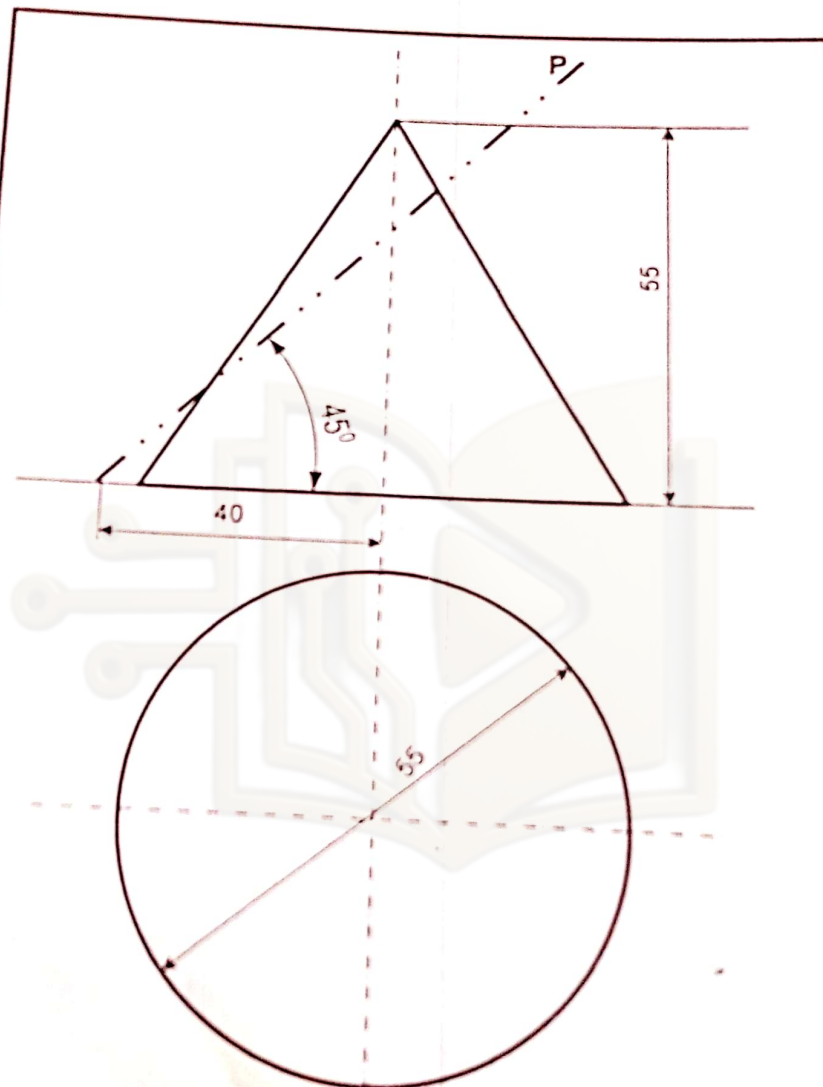

Figure 3
4. A right circular cone is cut by a plane P as shown in figure 3. Find the true shape of the section and also construct the lateral surface development of the object.